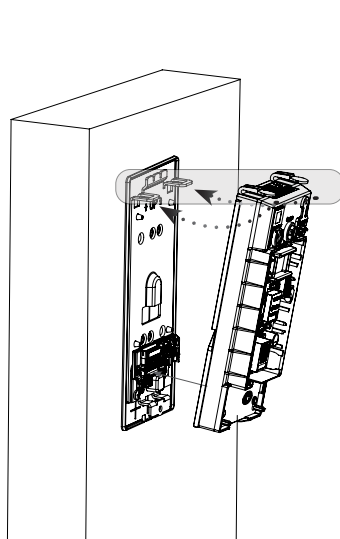
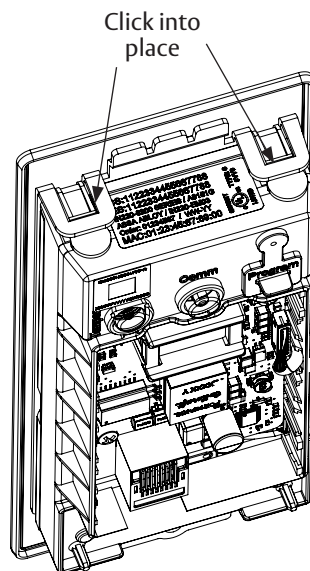

Figure 6-4D
Figure 6-4E
1. Insert bottom tab of controller (ensure a clear path) into slot on mounting plate (Figure 6-4D, Figure 6-4E).
2. Ensure proper alignment of board-to-board connectors (Figure 6-4E) while pivoting controller toward door until two tabs on top click securely into place on mounting plate. (Figure 6-4D)